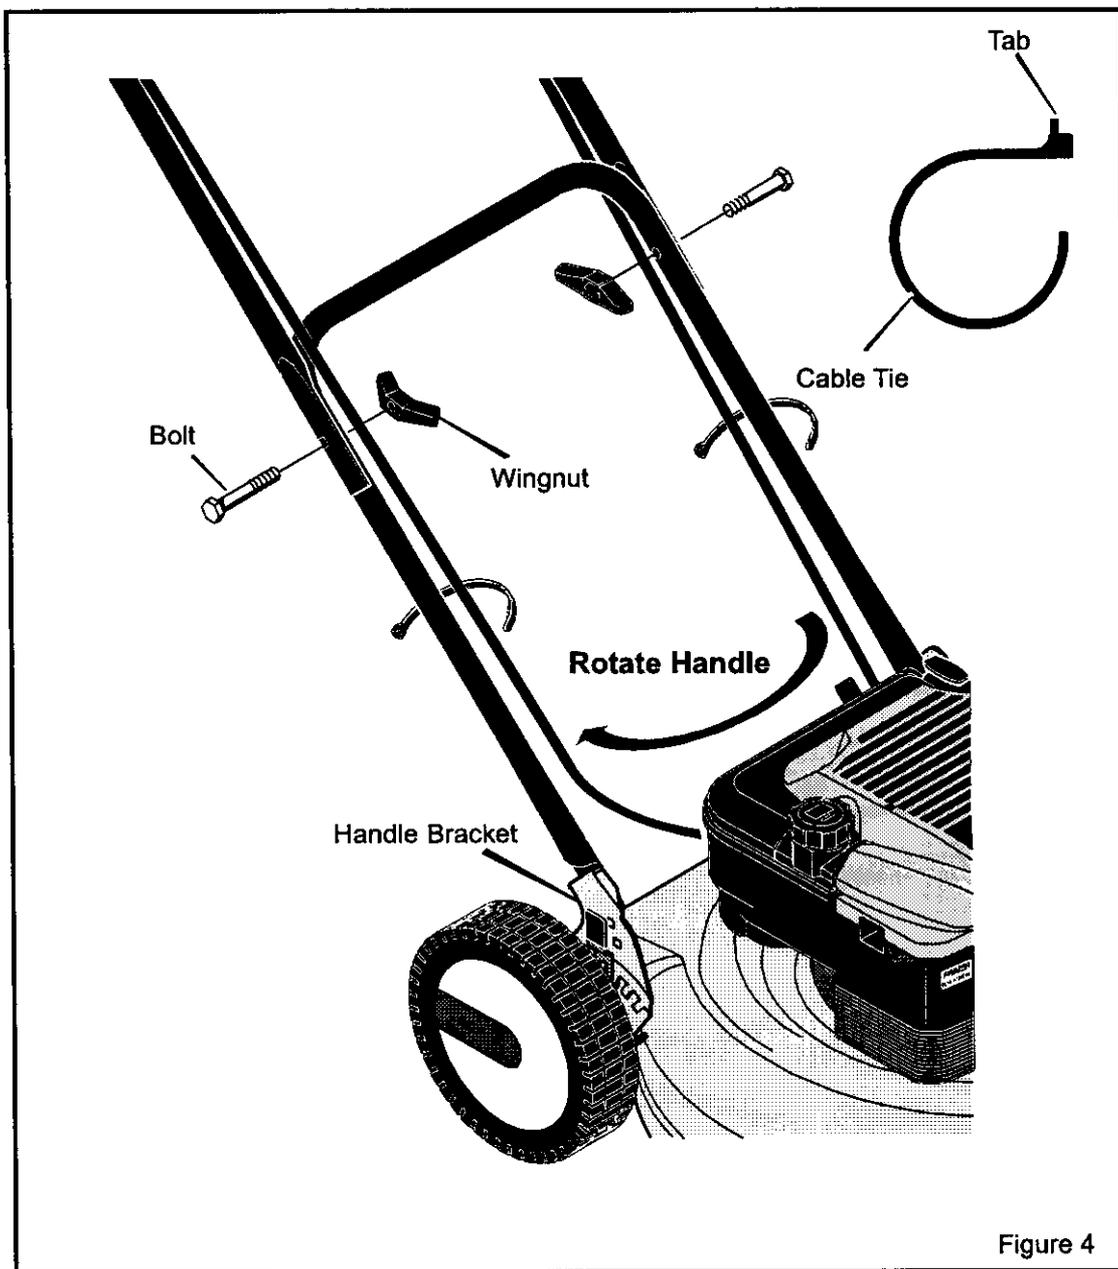

Figure 4
1. Remove the **cable ties** that fasten the **control cables** to the **lower handle** (Figure 4). The **cable ties** can be re-used. To remove a **cable tie**, pull the **tab** on the **cable tie** to free the **cable**.
6. Rotate the **lower handle** around (Figure 4). Mount the **lower handle** to the **handle brackets**.
8. Fasten the **upper handle** to the **lower handle** with the bolts and **wingnuts** (Figure 4).